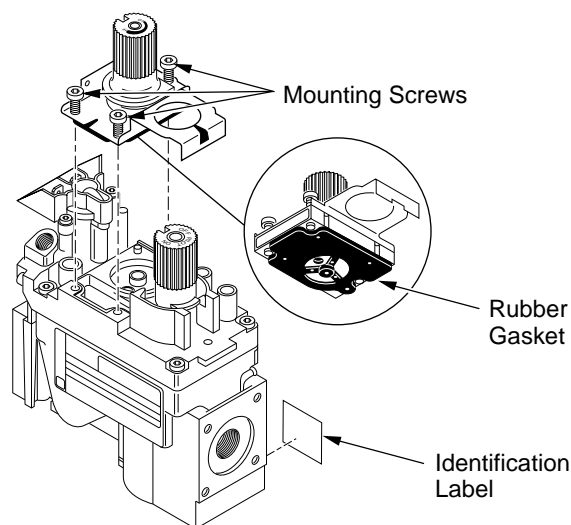

Figure 5 - Installing Pressure Regulator Assembly
2. Insure that the rubber gasket is properly positioned on the new pressure regulator assembly. Install the LP pressure regulator assembly to the valve using the new mounting screws supplied with the kit. Tighten screws securely (approximately 25 in-lbs.) (see Figure 5, page 3).
3. Install the identification label enclosed with the gas valve regulator to the valve body where it can easily be seen (see Figure 5, page 3).